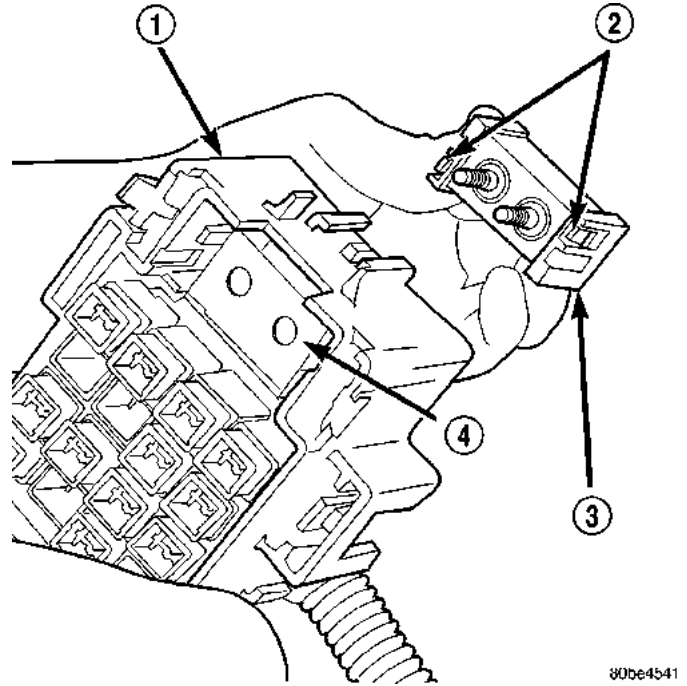

Fig. 11 PDC B(+) Terminal Module Remove/Install
- (3) Gently and evenly press the two B(+) terminal studs down through the bus bar in the PDC.
- (4) From the bottom of the PDC housing, remove the B(+) terminal module from the PDC (Fig. 11).